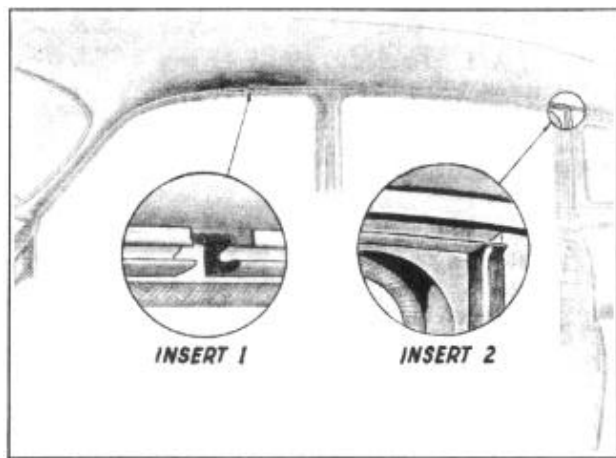

FIGURE 26
1. Remove the upper door opening weatherstrip, Figure 26.
strip, Figure 26, Insert No. 2.
4. Check to be sure weatherstrip is of the proper length and for the right or left side as required before applying rubber cement. See Figure 26, Insert No. 1.
5. Trim the upper end of the weatherstrip to follow the contour of the door opening weatherstrip as shown in Figure 26, Insert 2.